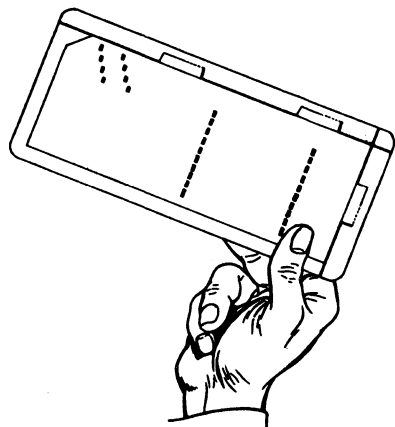

Figure 71. Program Sensing Contacts Adjustment
1. Prepare a program card (Figure 71) and check registration.
2. Prepare program card as indicated in Figure 71 and check registration.